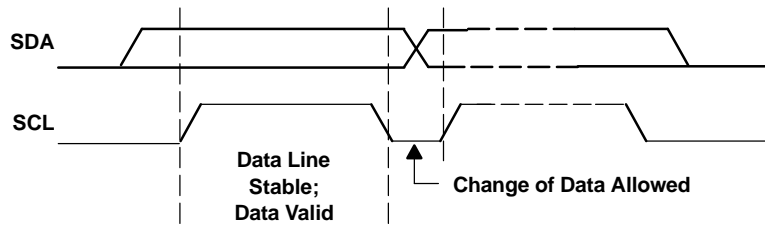
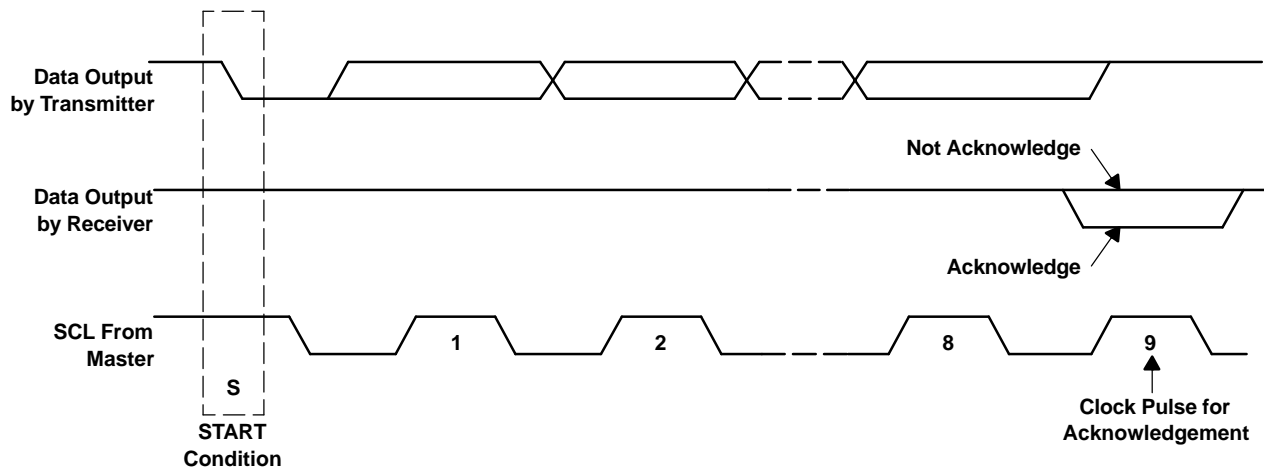

Figure 30. Bit Transfer on the I²C Bus
Figure 31. Acknowledge on the I²C Bus
- The master then generates the SCL pulses, and transmits the 7-bit address and the *read/write direction bit* R/\bar{W} on the SDA line. During all transmissions, the master ensures that data is *valid*. A *valid data condition* requires the SDA line to be stable during the entire high period of the clock pulse (see Figure 30). All devices recognize the address sent by the master and compare it to their internal fixed addresses. Only the slave device with a matching address generates an *acknowledge* (see Figure 31) by pulling the SDA line low during the entire high period of the 9th SCL cycle. Upon detecting this acknowledge, the master knows that communication link with a slave has been established.